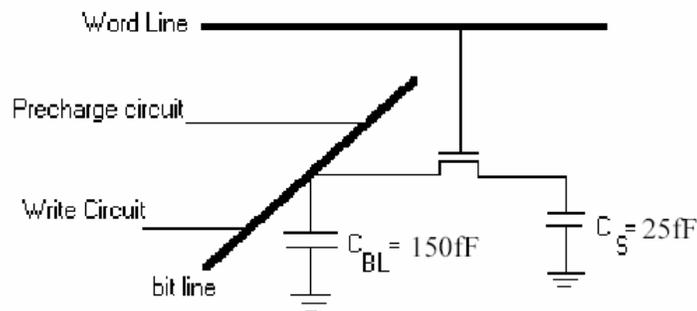

Figure 1
1. **DRAM:** A 1T1R DRAM cell is represented by the following circuit diagram (Figure 1). The bit line is pre-charged to $V_{DD}/2$ using a pre-charge circuit when a read is expected. Also the WRITE circuit is used to bring the potential of the bit line to V_{DD} or 0V during the WRITE operation with the word line at V_{DD} . Use our default technology.